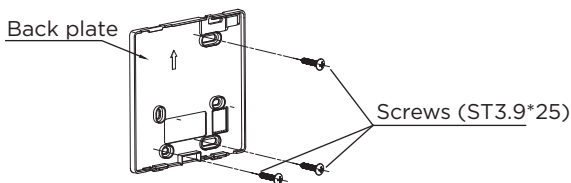

Fig 3-3
- For exposed mounting, fasten the back plate on the wall with the 3 screws (ST3.9*25) and plugs. (Fig.3-3)